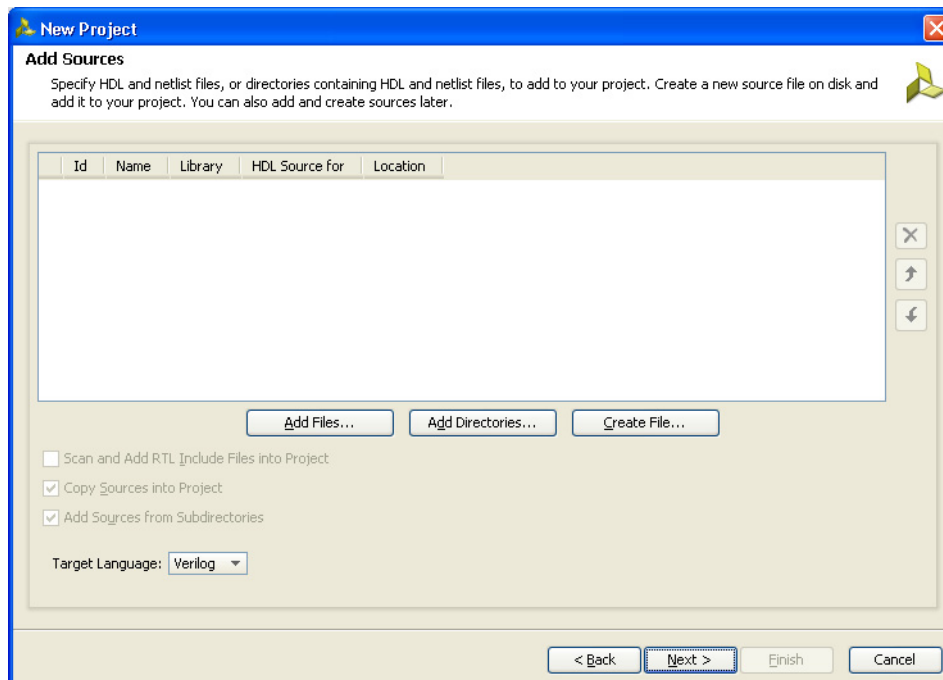

Figure 3-5: Add Sources
5. Click **Next** to proceed to the Add Sources page (Figure 3-5). RTL files can be added to the project in this page. If the project was not created earlier, proceed to the next page.